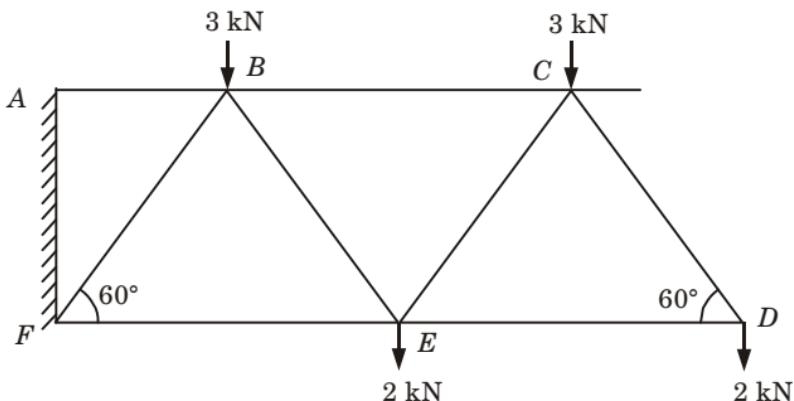

Fig. 26.
- b. The Fig. 26 shows a warren type cantilever truss along with the imposed loads. Determine the forces in all the members using tension coefficients.
**Ans.****Given :** Truss shown in Fig. 26.**To Find :** The forces in all the members using tension coefficients.